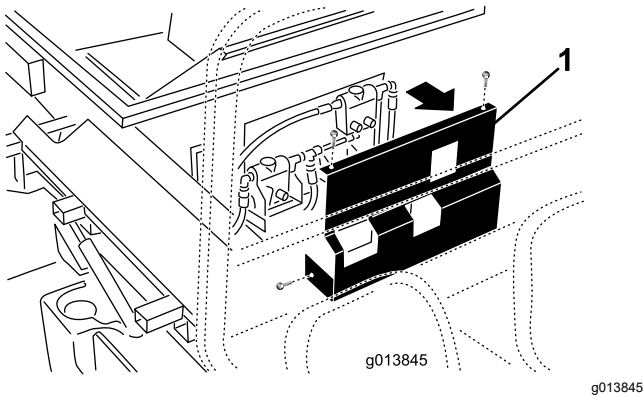

Figure 13
10. On the SH version (Model 44701) remove the fasteners securing the cover to the front of the machine and set the cover aside (Figure 13).